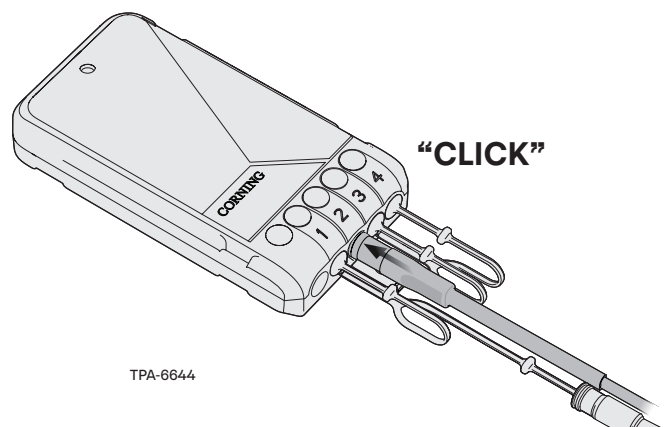

Figure 29
**Step 3:** Insert the drop connector into the terminal port, until the button clicks and the latch is engaged (Figure 29).